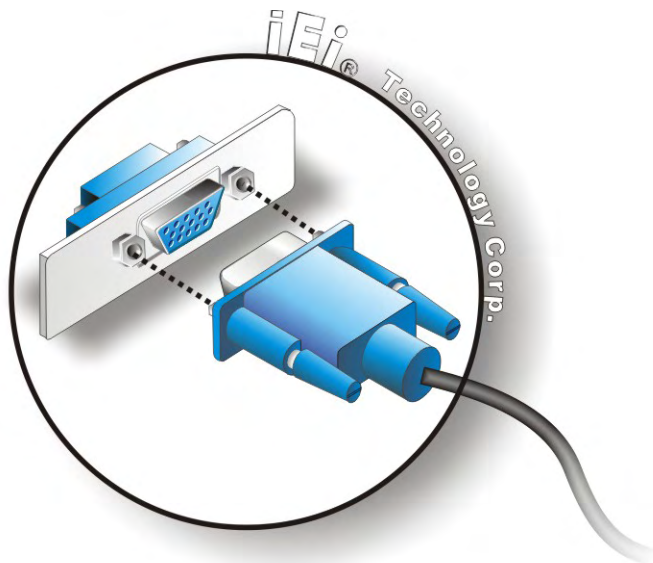

Figure 4-15: VGA Connector
**Step 3: Insert the VGA connector** Once the connectors are properly aligned with the insert the male connector from the VGA screen into the female connector on the 3308585. See Figure 4-15.